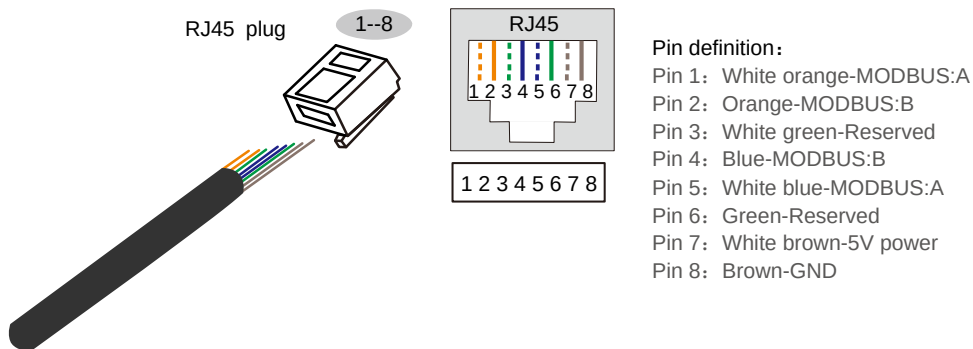

Figure2-16 Pin definition of MODBUS port
- MODBUS port is used for MODBUS communication, which is to communicate with upper computer. MODBUS port adopts RJ45 plug. The pin definition of MODBUS port is shown in Figure2-16